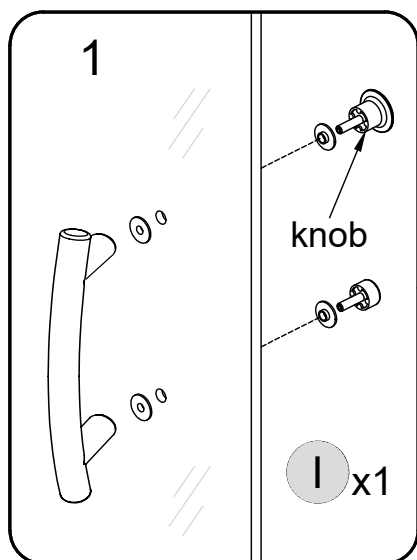

Fig 16
Attach the **Handle (I)** to the **Glass Door (H)**. (Fig 16) (Knob is placed upward)